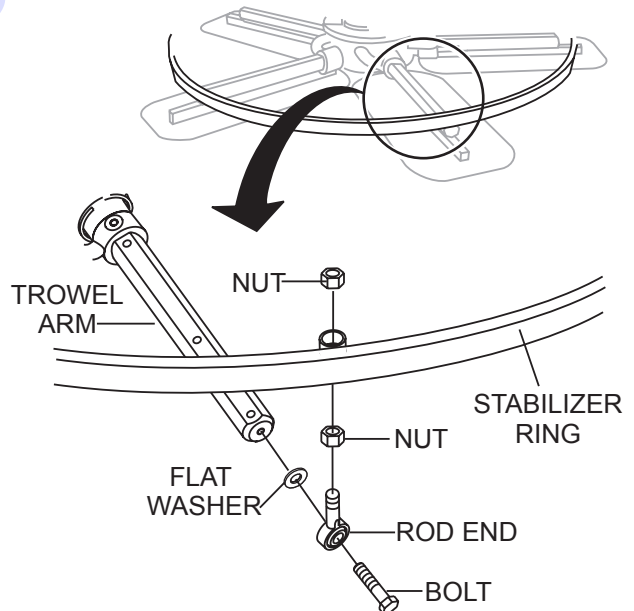

Figure 51. Stabilizer Ring
1. Remove the hardware securing the stabilizer ring to the trowel arm (Figure 51).